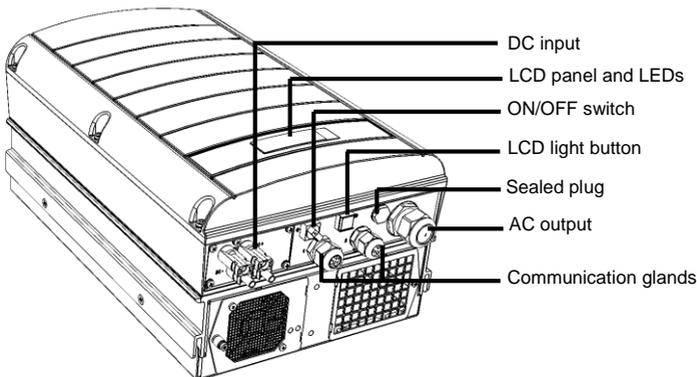

Figure 3: Inverter connectors (three phase example)
- Open the AC cable gland and insert the cable through the gland (see Figure 3).